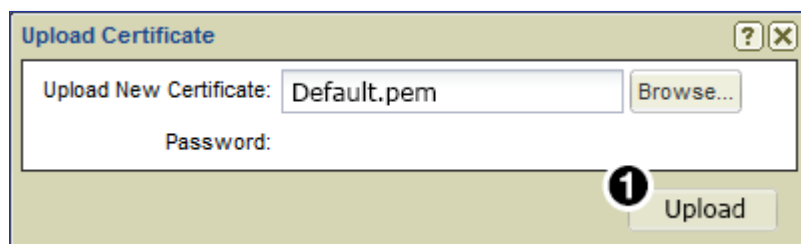

Figure 24. Upload Certificate Dialog
When the upload is complete, the **Upload Certificate** dialog opens with the new certificate file (see figure 24).
5. Click **Upload** (see figure 24, 1).